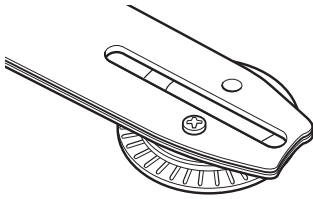
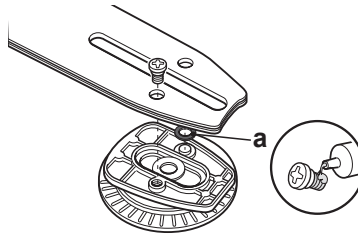

Fig. 43
Fig. 44
6. Turn the guide bar 180° to allow even wear, thereby extending the life span of the guide bar (4). Loosen the screw and remove the tension disc (24) from the guide bar (Fig. 43). Ensure the rubber washer (a) is free of wear. Turn the guide bar and fix the tension disc with the screw. Apply a drop of suitable glue to the screw to ensure its safe positioning (Fig. 44).